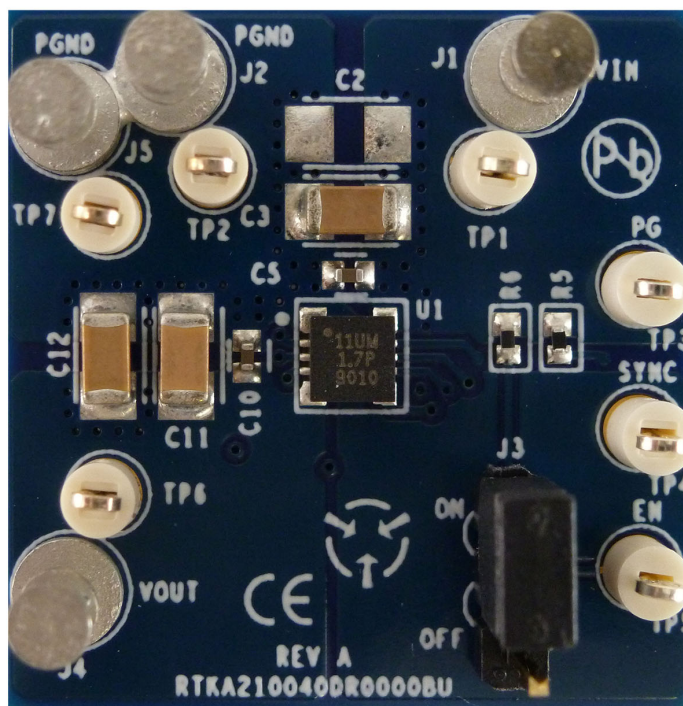
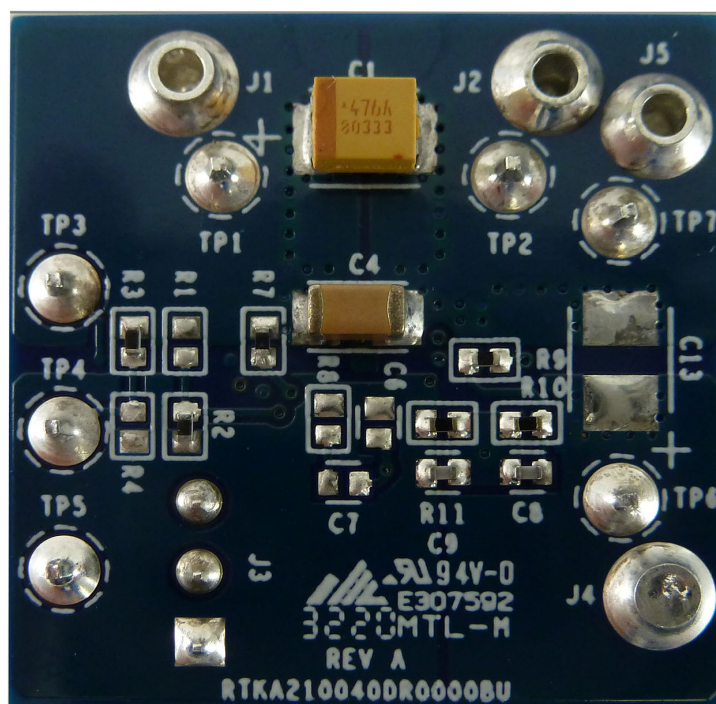
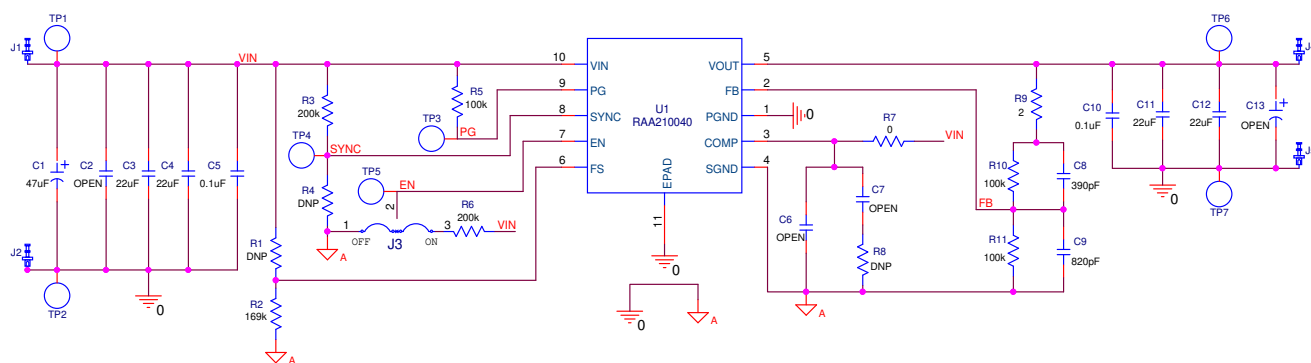

Figure 2. Top of Board
Figure 3. Bottom of Board
Figure 7. Schematic
The RTKA210040DR0000BU demonstration board (shown in Figure 2 and Figure 3) features the RAA210040. Capable of delivering up to 4A of continuous current, the RAA210040 is a compact, synchronous step-down, non-isolated complete power supply that is optimized for space-constrained applications. The RAA210040 is based on a peak current mode PWM control scheme that provides a fast transient response and excellent loop stability. The switching frequency is programmable from 500kHz to 4MHz with either the external resistor or synchronization to an external clock through the SYNC pin.
The RTKA210040DR0000BU provides the peripheral circuitry to demonstrate the feature set of the RAA210040. The demonstration board includes several connectors, test points, and jumpers that simplify the validation of the module. The module is enabled and disabled by moving the jumper across the EN pin as shown in Figure 2. Selecting features like external frequency synchronization is performed by removing the pull-up resistor R_3 of the SYNC pin and connecting the signal generator (square pulse waveform clock signal) to TP4 of the SYNC pin. The output voltage (0.6V - 5V) and the switching frequency (500kHz to 4MHz) are programmed by changing the resistors as shown in Figure 3.
1. Disable the module by connecting the jumper across 2 and 1 on J3 for the EN pin as shown in Figure 2 and Figure 7.